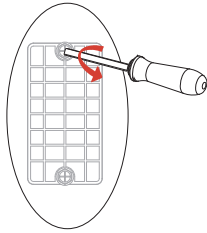

Figure 10a: Unscrew the cover
- A. Unscrew the cover. (Figure 10a)